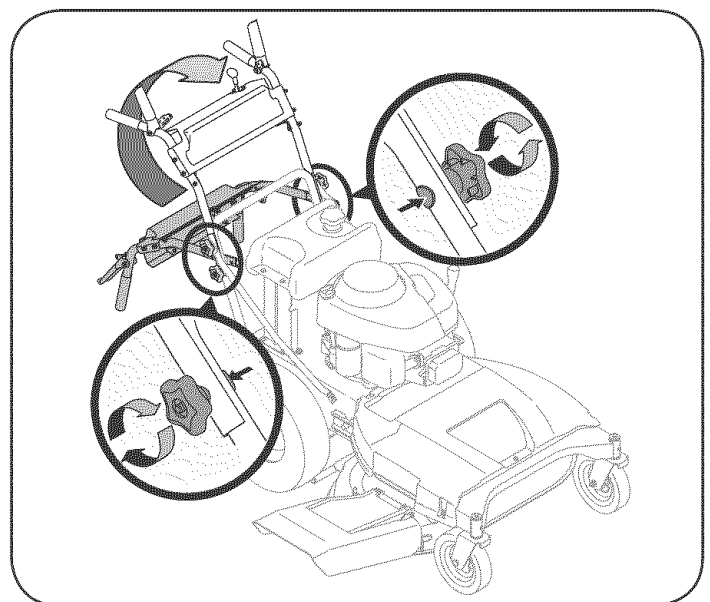

Figure 3
2. Pivot upper handle into operating position, Figure 3. Be careful not to bend or kink the cables when pivoting the handle.
4. Tighten the upper and lower star knobs and carriage screws to secure the upper handle to the lower handle, Figure 3.